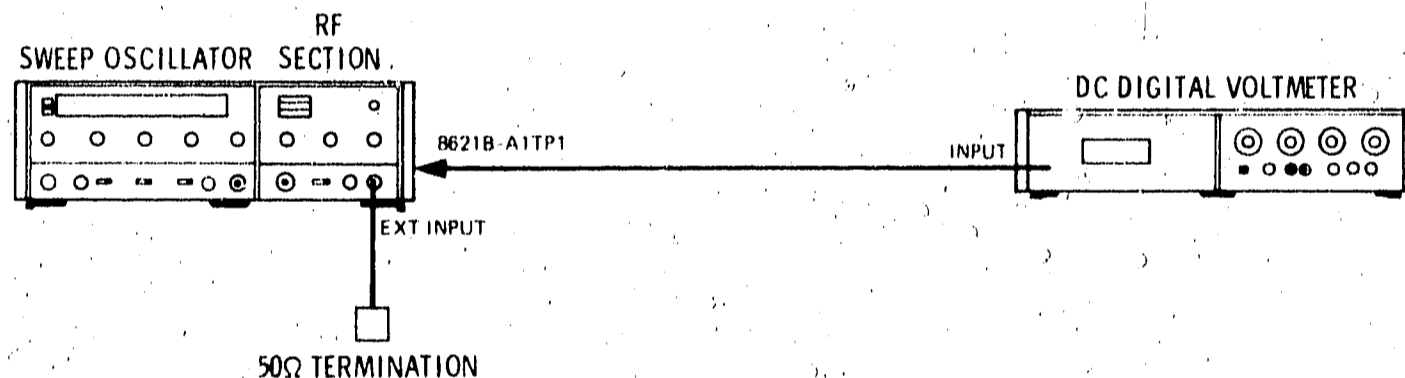

Figure 5-1. ALC Offset Adjustment Test Setup
- b. Connect equipment as shown in Figure 5-1. Set crystal detector polarity switch A1S2 to either negative (−) or positive (+) to match crystal detector to be used. (See Figure 8-17 for location of OFFSET adjustment and Figure 8-18 for location of A1S2 polarity switch.)